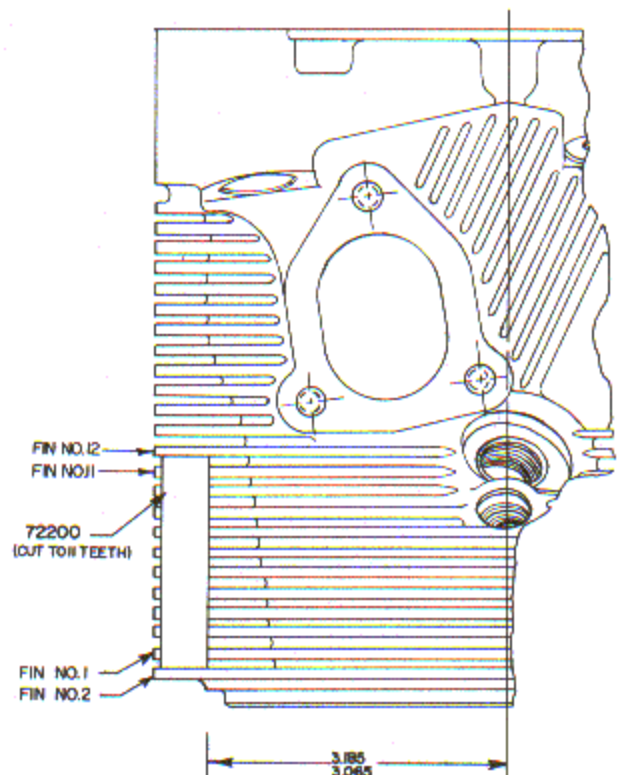

Figure 6-2. Stabilizers IO-540-B1A5
- f. The third stabilizer (Lyc. P/N 72200) is cut to size (11 teeth in length) and installed on the opposite side 3.185/3.065 inches from the centerline of the head, and begins between No. 1 and No. 2 fins and ends between No. 11 and No. 12 fins. (Figure 6-2)